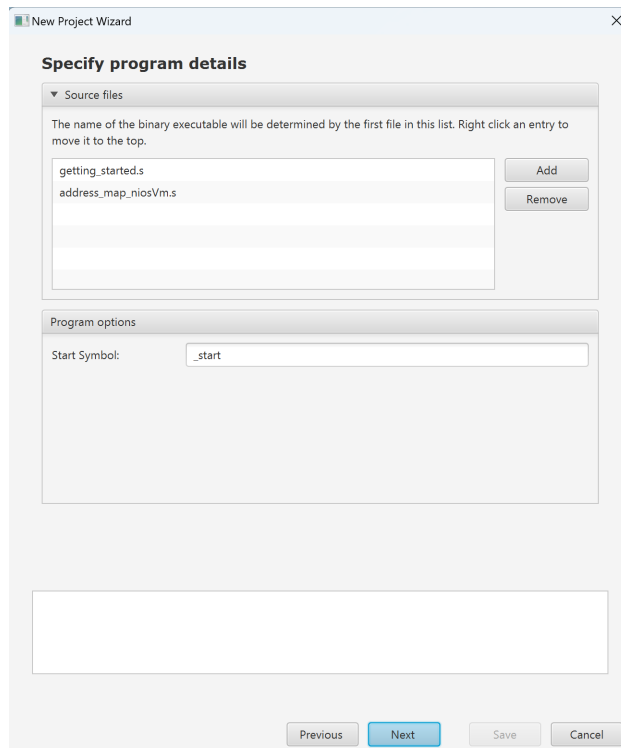
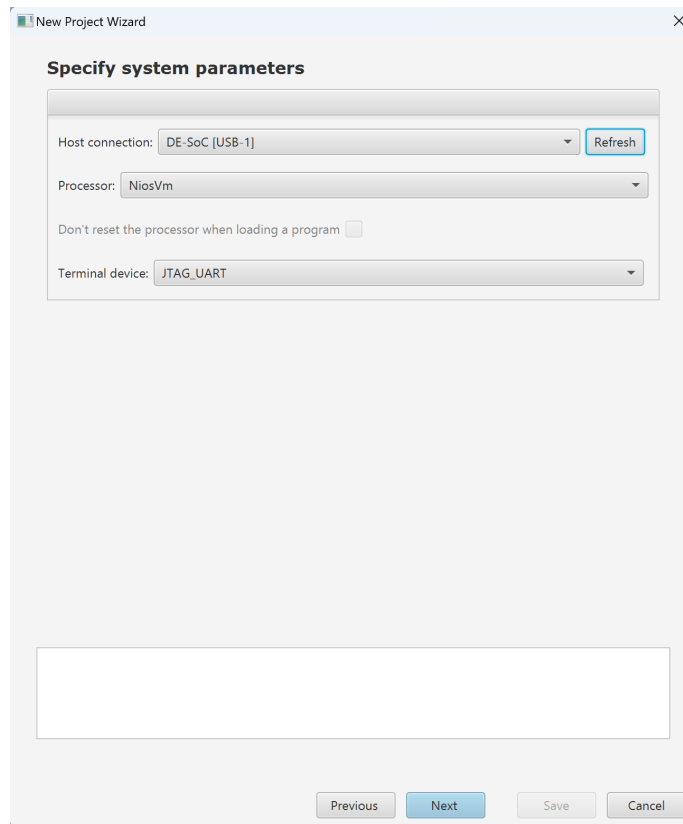
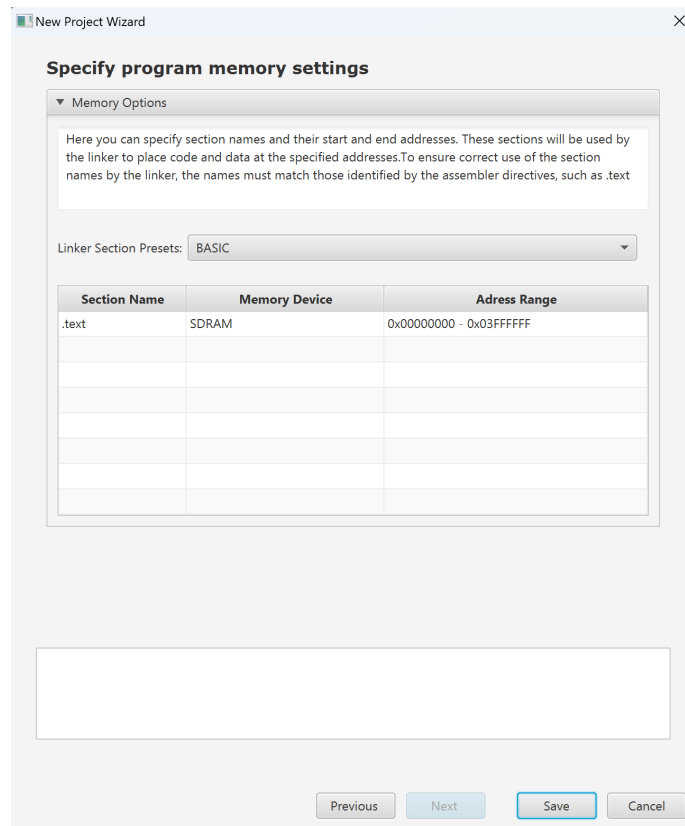

Figure 17: Source files used by the application program.
Figure 18: Specify the system parameters.
Figure 19: Specify the program memory settings.
5. The window in Figure 17 is used to specify the source file(s) that contain the application program(s). Since we have selected the *Getting Started* program, the window indicates the source code file for this program. This window also allows the user to specify the starting point in the selected application program. The default symbol is `_start`, which is used in the selected sample program. Click Next.
6. The window in Figure 18 indicates some system parameters. Note that the figure indicates that the *DE-SoC [USB-1]* cable is selected to provide the connection between the DE-series board and the host computer. This is the name assigned to the Altera USB Blaster connection between the computer and the board. If no Host Connection is shown, click on the Refresh button.
7. The window in Figure 19 displays the names of Assembly sections that will be used for the program, and allows the user to select a target memory location for each section. In this case only the *.text* section, which corresponds to the program code (and data), will be used. As shown in the figure, the *.text* section is targeted to the memory in the DE-series board that is mapped to start at address 0. Click **Save** to complete the specification of the new project.
2. Upon reaching the window in Figure 17, you have to specify the source code file for your program. Click **Add** and in the pop-up box that appears indicate the desired file name, *part2.s*. Click **Next** to get to the window in Figure 18. Again click **Next** to get to the window in Figure 19. Notice that the SDRAM is selected as the memory device. Your program will be loaded starting at address 0 in this memory. Click **Save**. Note that you do not need to download the DE1-SoC Computer system to your board, as you already programmed the FPGA chip when performing Part VI.